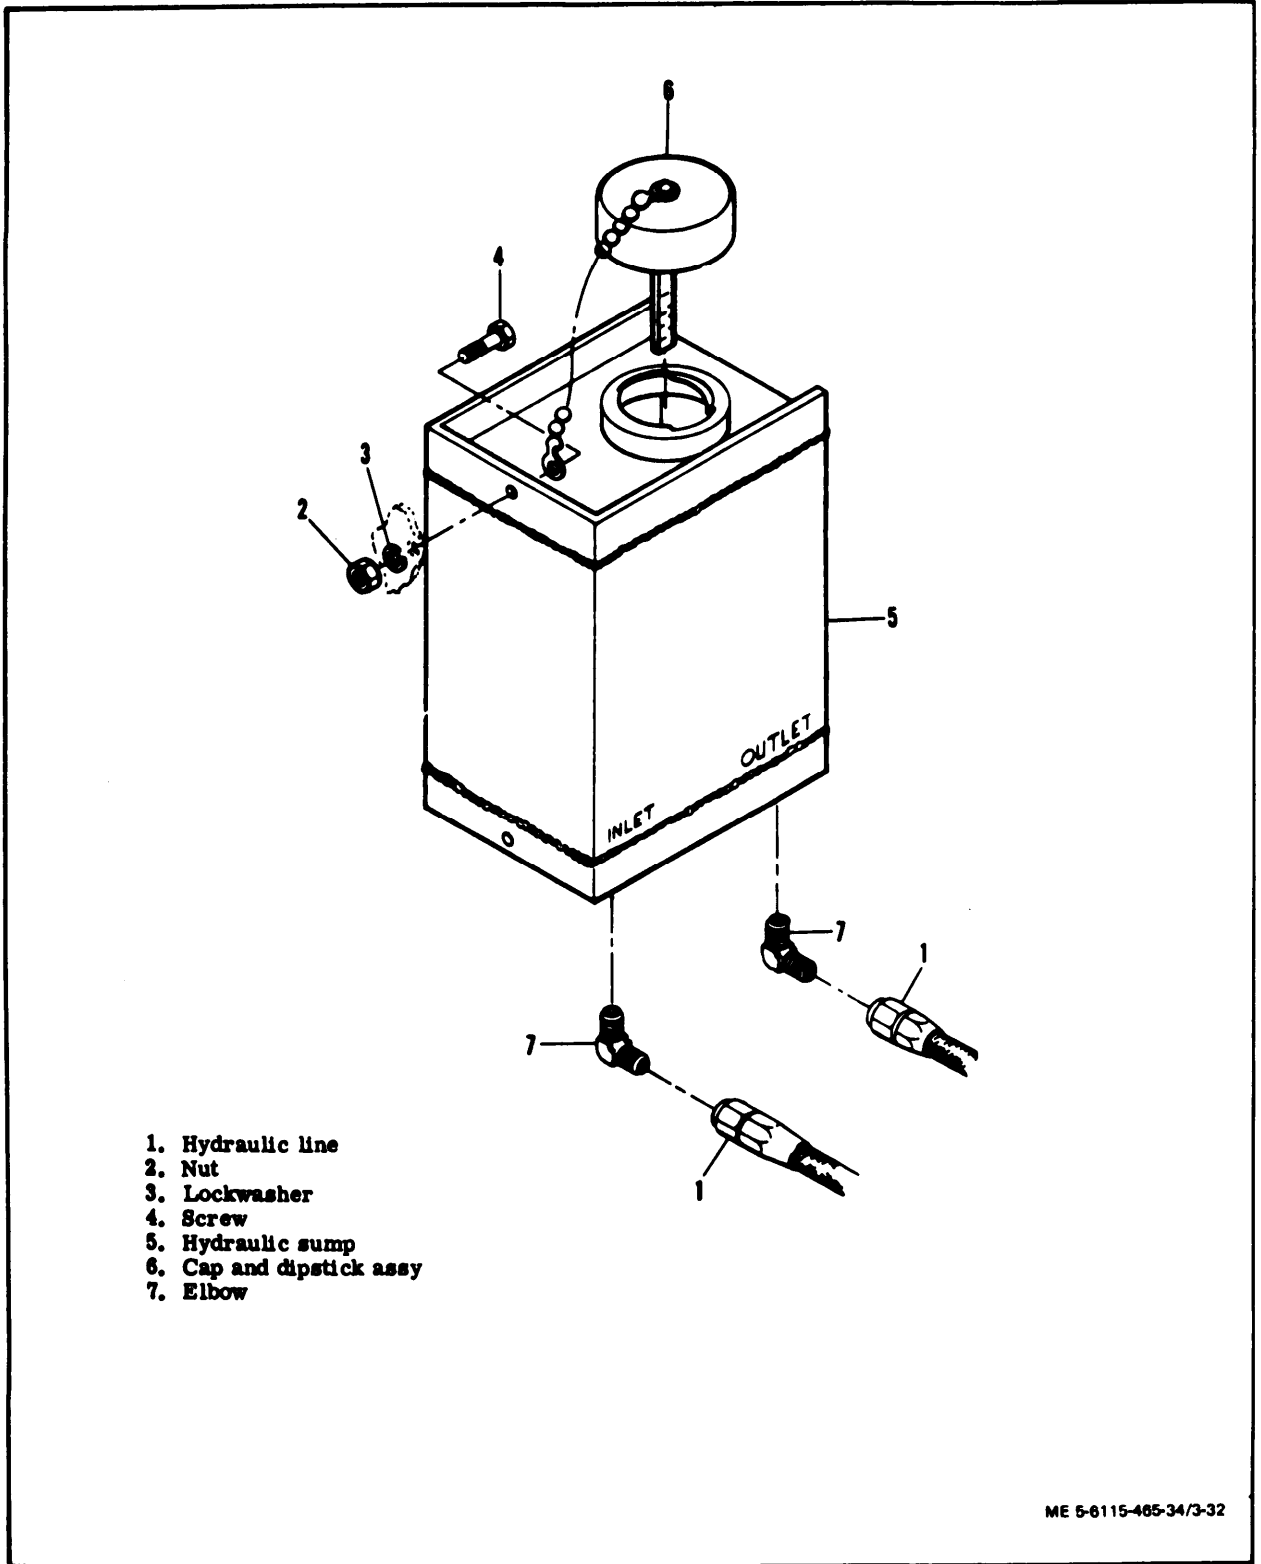

Figure 3-32. Hydraulic Sump, Removal and Installation
(1) Refer to the Operator and Organizational Maintenance Manual and draft the hydraulic sump.
(2) Disconnect hydraulic lines (1, figure 3-32).
(3) Remove nuts (2), lockwashers (3) and screws (4) to remove hydraulic sump (5).
(4) Remove cap and dipstick assembly (6) and elbows (7) from sump.
(1) Install elbows (7, figure 3-32).
(2) Install cap and dipstick, assembly (6) in hydraulic sump (5) and secure with screws (4), lockwashers (3) and nuts (2).
(3) Connect hydraulic lines (1).